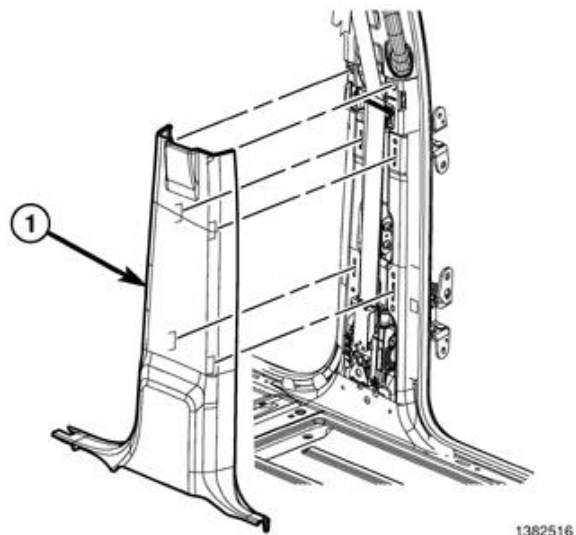

Figure 58 – B-Pillar Lower Trim Panel
6. Release the retaining clips and remove the B-pillar lower trim panel to allow for removal of the B-pillar upper trim panel (Figure 58).